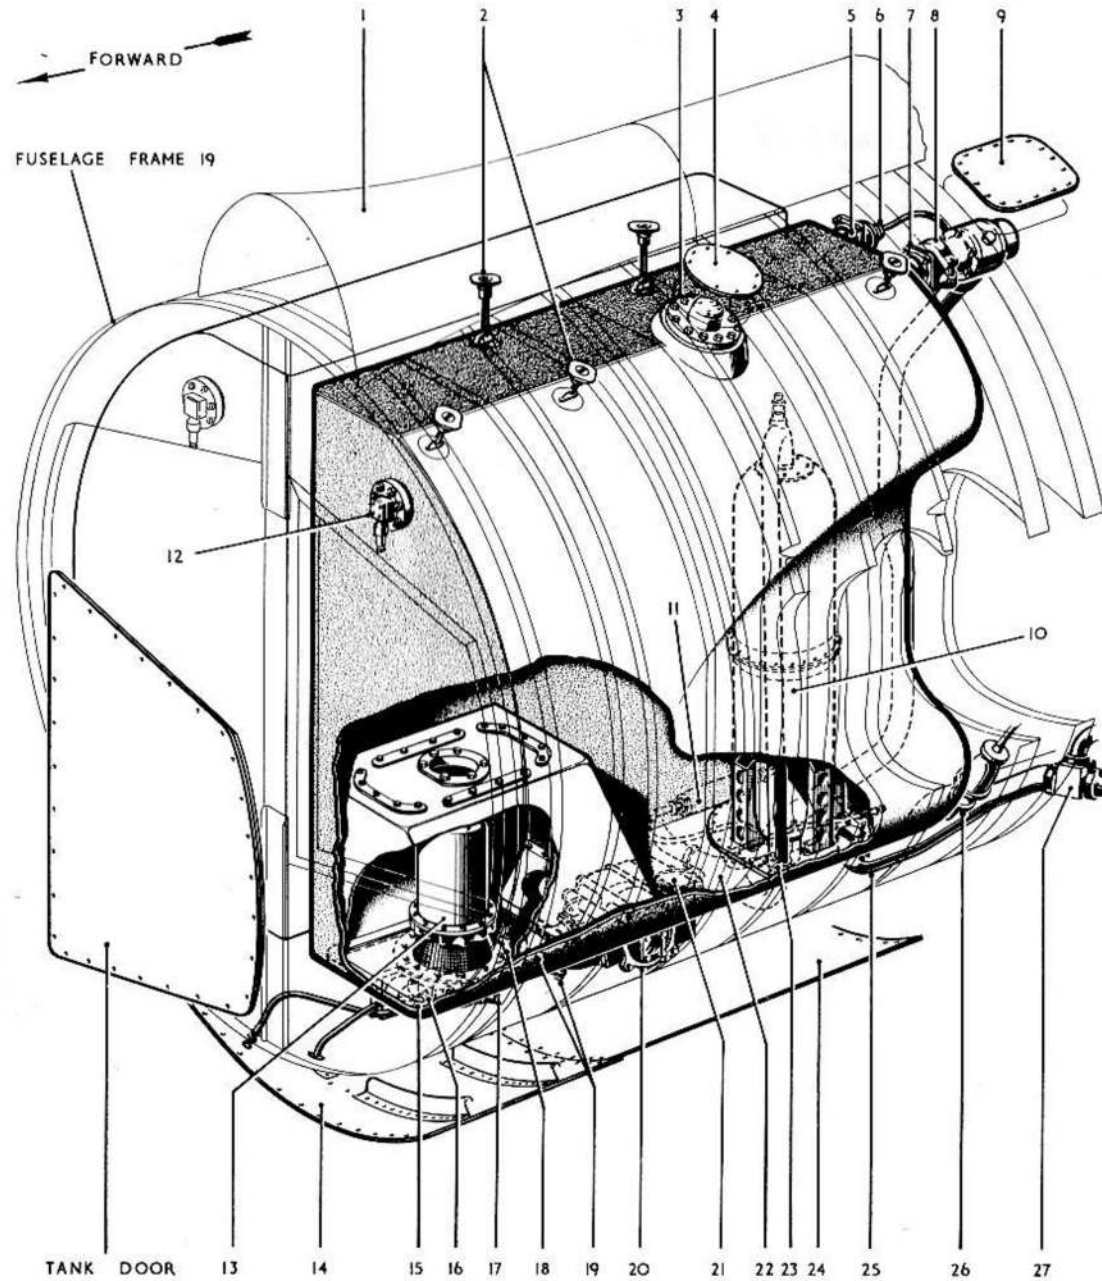
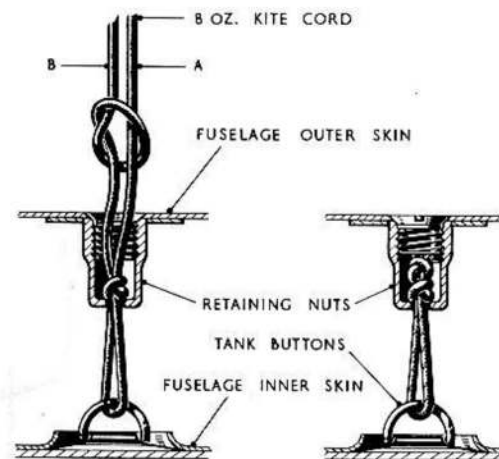

FIG. 9 REMOVAL OF FRONT FUEL TANKS
FIG.12 SECURING THE TANK CORDS
Removal of front tanks (fig.9)
- (1) Render the aircraft electrically safe (Sect.5, Chap.1).
- (2) Drain the fuel system (Sect.2, Chap.2).
- (3) Remove the gun package (Sect.7, Chap.3).
- (4) Remove the wireless access door from under the fuselage between frames 16 and 18.
- (5) In the case of the port tank, remove the wireless sets and structure (Sect.6, Chap.1 and 2) and the cable clipping on the tank door. Remove the tank door on frame 19. In the case of the starboard tank, remove the ARM J.B.1 (Sect.5, Chap.1), the starter circuit breaker and the circuit breaker T.B. Disconnect the relay 1254 (Sect.6, Chap.1). Remove the cable clipping on the tank door.
- (6) Remove the fuel pump access door (14, fig.9) and the fuel system access door (24). Remove the engine starter access door aft of frame 25.
- (7) Remove the fuel level switch access door (4) and the fuel vent connection access door (9).
Removing fuel contents gauge terminal box (fig.9)
Removing fuel level switch (fig.9)
Removal of tank retaining cords (fig.9)
Disconnection of suction and pressure relief valve (fig.9)
Removal of vapour release valve (fig.9)
Removing blanking plate (fig.9)
Removing booster pump (fig.9)
Removing the inverted flight recuperators (fig.9)
- (1) Remove the screws from the five tank retaining nuts.
- (2) Thread 8 oz. kite cord (Stores Ref.32A/107) through the nuts into the tank bay and out through the tank door in frame 19.
- (3) Pass the cords through the buttons on the top of the tank (fig.9, item 2 and fig.12).
- (4) Fold the tank and push it into the tank bay. Pull all cords until the tank is held against the tank bay skin by the cords.
- (5) Cut the cords and tie one end of the cord round the other in a slip knot (fig.12) and pull down into the retaining nut. Tie another slip knot (around the other end of the cord this time) and work down into the retaining nut as far as possible. Cut both ends of the cord at outer skin level.
- (6) Replace the screws in the retaining nuts and lock by peening the skin into the slot.